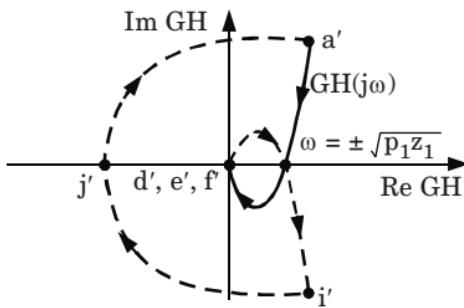

Fig. 25.
4. Path \overline{def} maps into the origin, and \overline{ija} maps into on semicircle at infinity. The resulting plot is shown in Fig. 25.